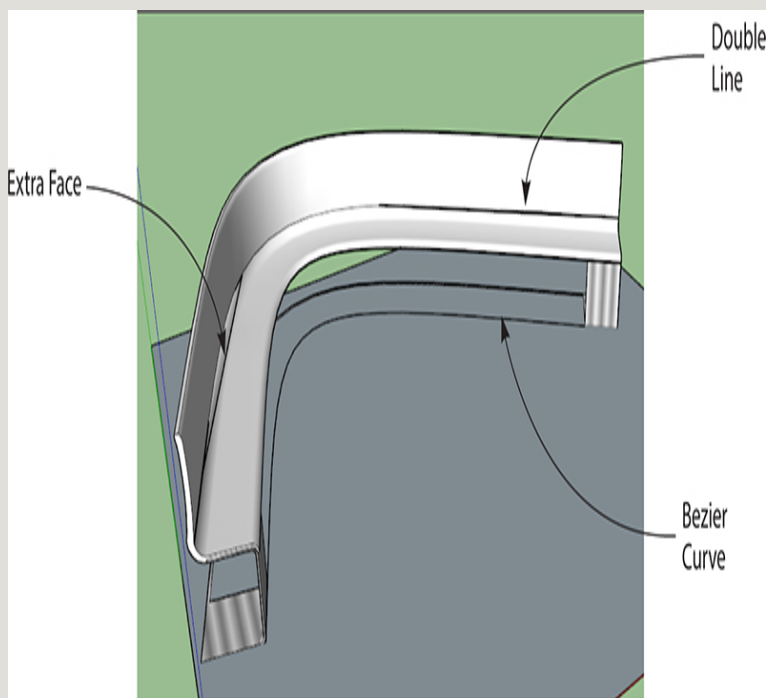

Figure 4-23 The extruded bench.
7. The bench (Figure 4-23) needs some cleaning up, which is common with this extension. The extra face that formed near the curve can be selected and deleted. The thick line along the back of the seat is actually two double lines that can be selected and deleted. The Bezier curve also should be deleted. You might want to copy the legs, add a few more, and perhaps extrude them around the Bezier curve, too.